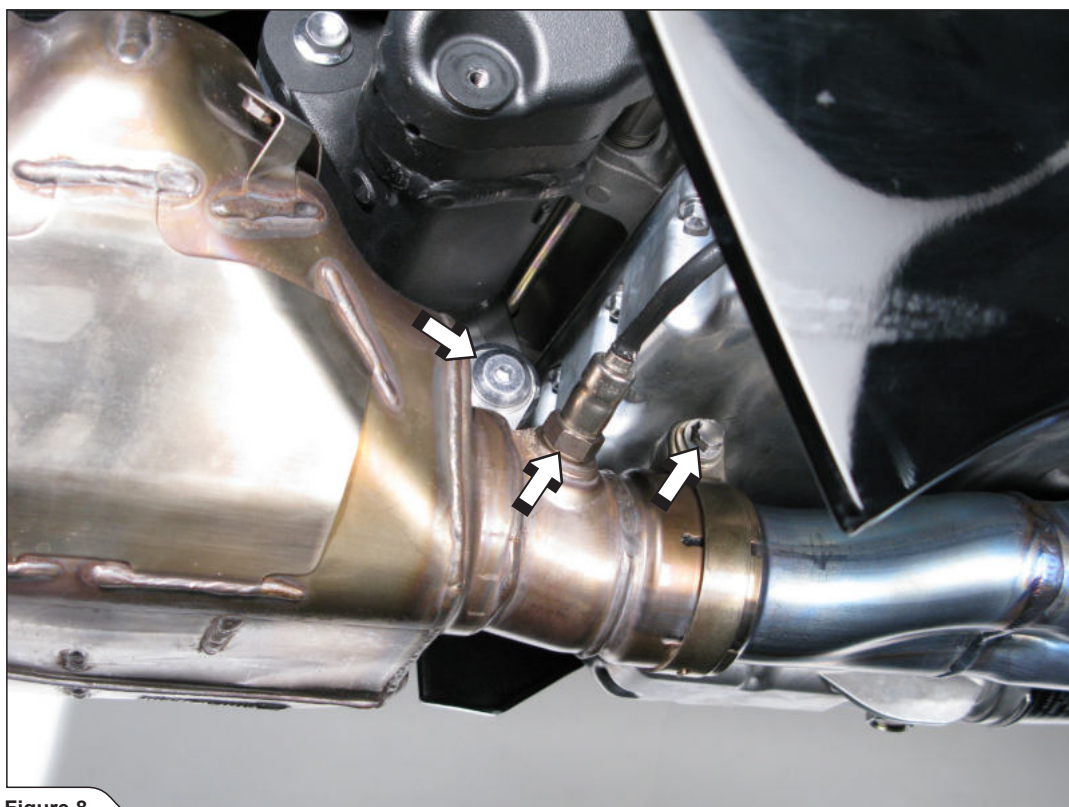

Figure 8
8. **For optional link pipe only:** untighten metal clamp at the collector-headers connection and unscrew the collector hanging bracket and the lambda sensor (Figure 8). Remove the collector together with exhaust valve cables off the motorcycle.